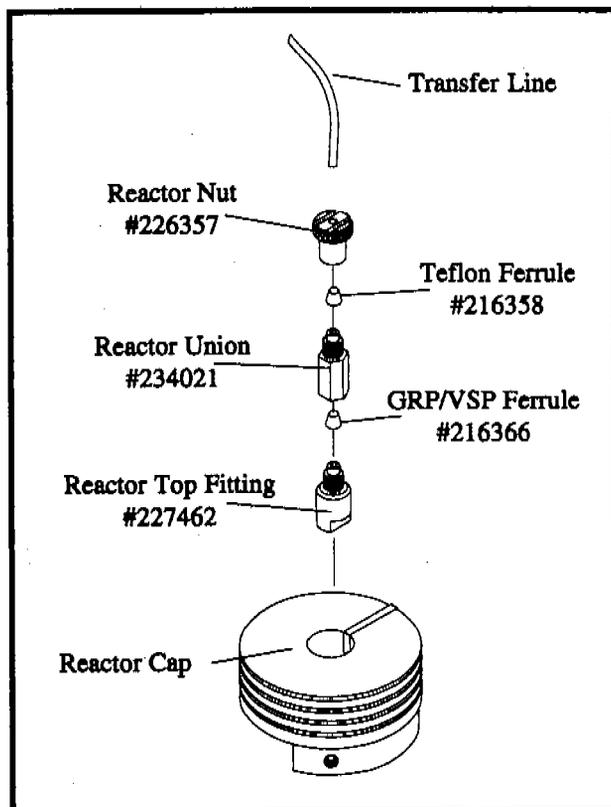

Figure 3.2. Reactor Conductivity Assembly
Reactor Conductivity Assembly (not shown) seals the reaction tube to the transfer line that leads to the cell, by use of a GRP/VSP ferrule on the reactor end and a Teflon[®] (TFE) ferrule on the transfer line end. (See detail in Figure 3.2.)
- Slide and properly seat the reactor top fitting (Part #227462), GRP/VSP ferrule (Part #216366), and reactor union (Part #234021) over the reaction tube and slightly tighten down. (see Figure 3.2).
- Connect the other end of the transfer line to the top of the reactor by sliding the tubing through the 1/16" reactor nut (Part #226357) and Teflon ferrule (Part #216358). Note the direction of the ferrule in Figure 3.2.